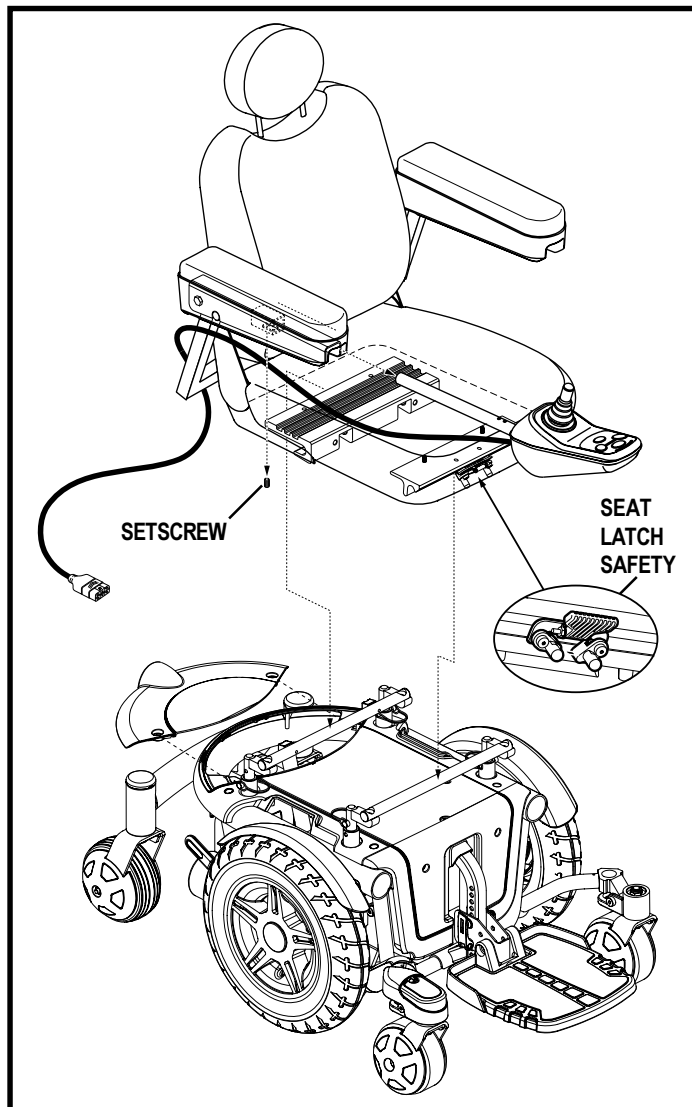

Figure 11. Seat Installation (UMS)
It may be necessary to install the seat either prior to initial operation or after transporting your power chair. Most seats are attached to the power base with the Universal Mounting System (UMS). The UMS consists of universal parts that may be attached to any medium-back or high-back seat, regardless of seat width or seat depth. The two main components are aluminum extrusions mounted to the seat base. These extrusions attach to a pair of trapeze bars that are mounted to the power base. See figure 11.
1. Tilt the seat back and slide the rear extrusion onto the rear trapeze bar. See figure 11.
5. Install the controller into one of the armrests. See figure 11. Tighten the setscrew.